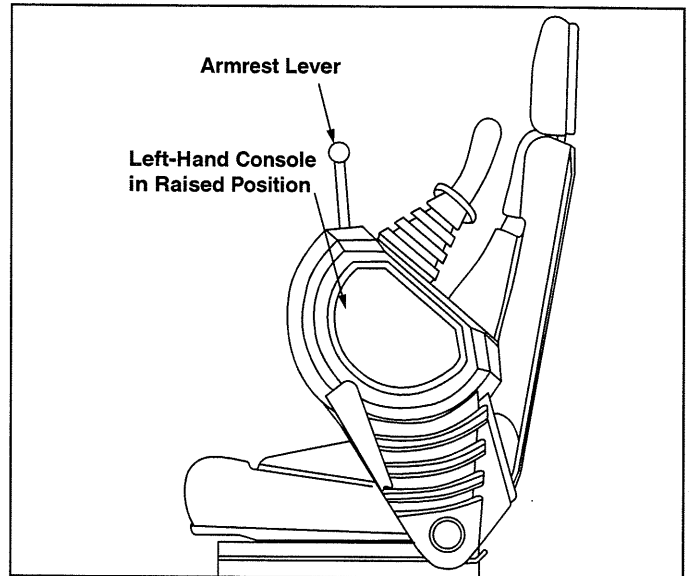

Figure 3-7. Operator's Seat with Left-Hand Console Raised
*NOTE: The operator's seat left-hand console must be raised in order to exit the cab. In the raised position, the left-hand console locks out all hydraulic functions of the machine (Figure 3-7).*